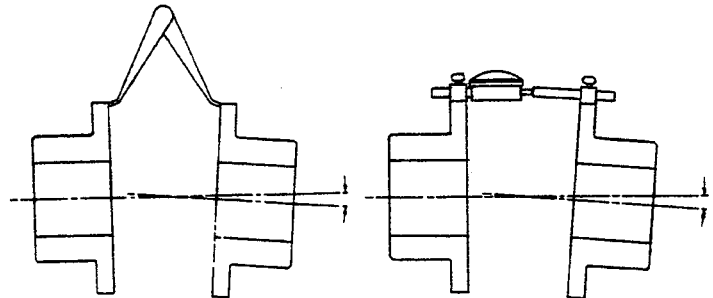

Figure 2
**C. Angular Alignment.** Rigidly mount a dial indicator on one hub or shaft, reading the face of the other hub flange, as shown in Figure 2. Rotate both shafts together making sure the shaft axial spacing remains constant. Adjust the equipment by shimming and/or moving so that the indicator reading is within .002 inch per inch of coupling flange diameter. See Chart (A)